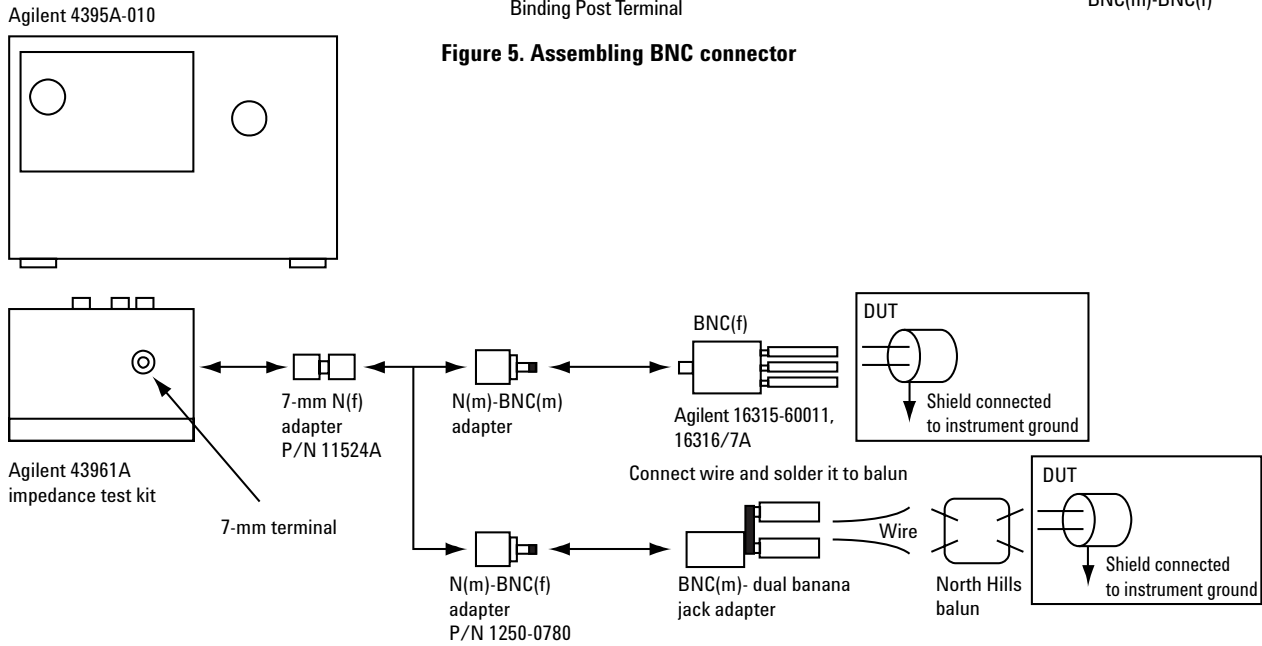

Figure 6. Measurement configuration (2)
Figure 6 shows impedance measurement configuration (2) with the 4395A.